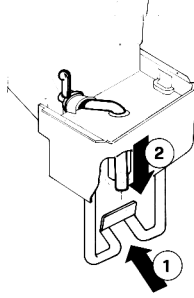

figure 15
- 4 - Push (1) the dispensing handle and pull the pinch tube end
downwards (2) till it is arranged (see figure 15).